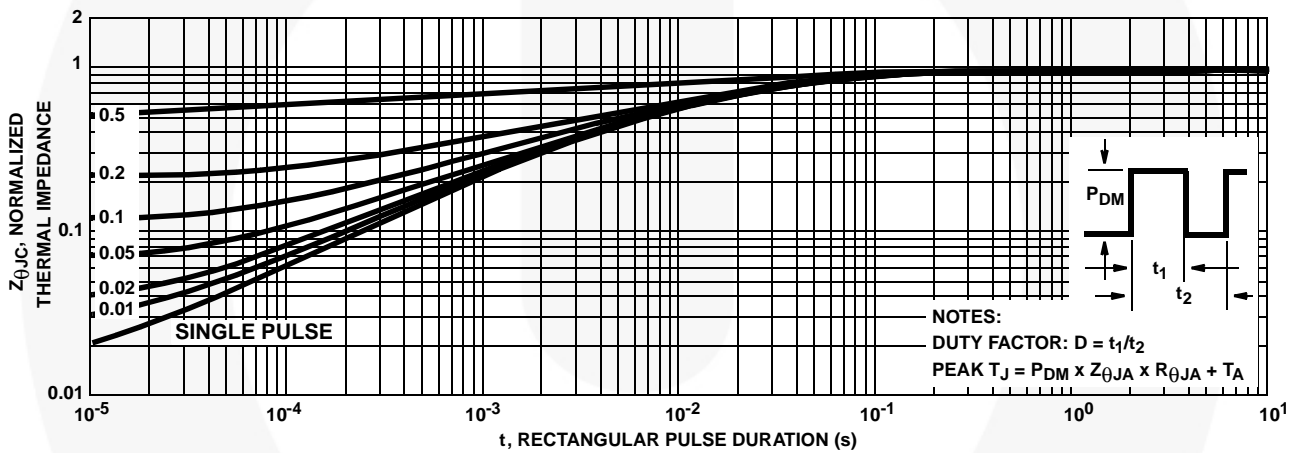

FIGURE 3. NORMALIZED MAXIMUM TRANSIENT THERMAL IMPEDANCE
- Repetitive rating: pulse width limited by maximum junction temperature. See Transient Thermal Impedance curve (Figure 3) and Peak Current Capability Curve (Figure 5).